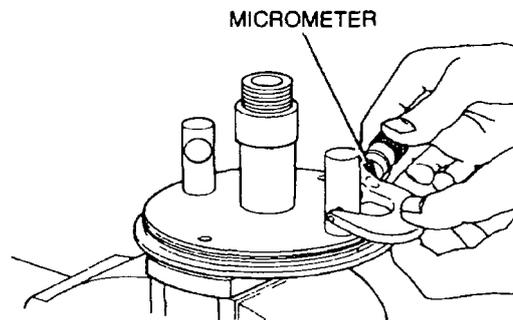

Figure 134 Measuring the Flyweight Pivots
- d. Using a micrometer, measure the outside diameter of the flyweight pivots (Figure 134) and note the reading.